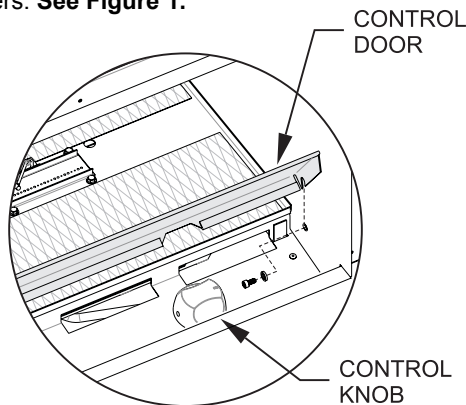

Figure 1
1. Place fireplace on a flat, level surface in an open area. Remove the fireplace or firepit control door by opening the door and lifting it upward to disengage the door slots from the pivot pins. Remove the two control door pivot bolts and washers. **See Figure 1.**